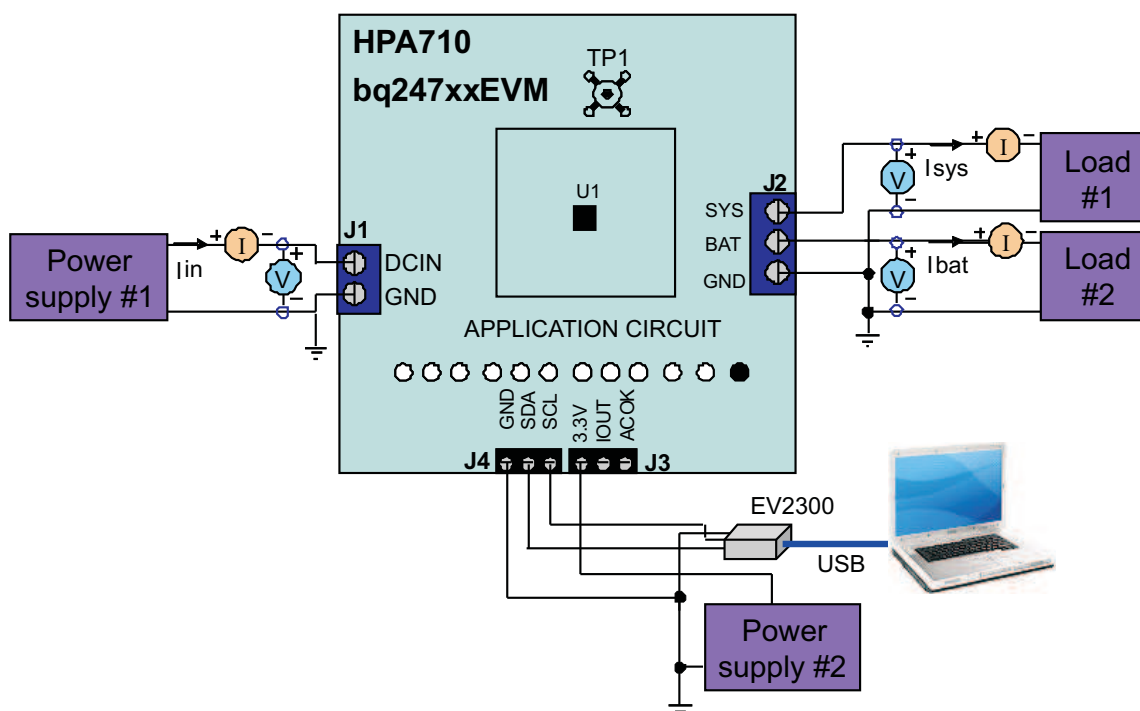

Figure 4. Test Setup for HPA710
3. Connect the output of the Load #1 in series with a current meter (multimeter) to J2 (SYS, GND). Ensure that a voltage meter is connected across J2 (SYS, GND). Turn on the power of the Load #1. Set the load current to $3\text{ A} \pm 50\text{ mA}$ but disable the output. The setup is now like Figure 4 for HPA710. Ensure that $I_{bat} = 0\text{ A} \pm 10\text{ mA}$ and $I_{sys} = 0\text{ A} \pm 10\text{ mA}$.